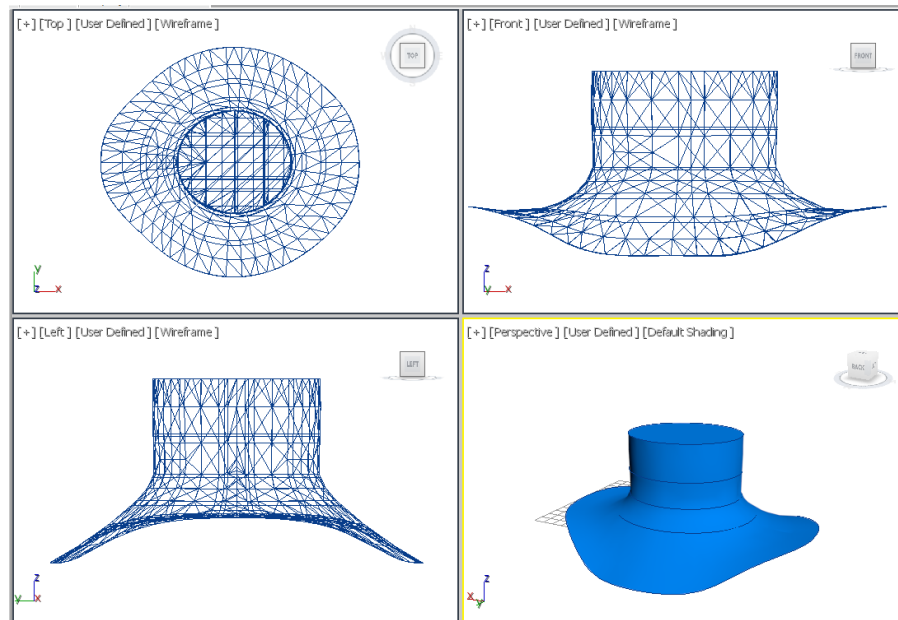

Figure 15-92 The surface modified at the sub-object level
10. Now, modify the surface using the control vertices and curves to get the required shape, as shown in Figure 15-92.